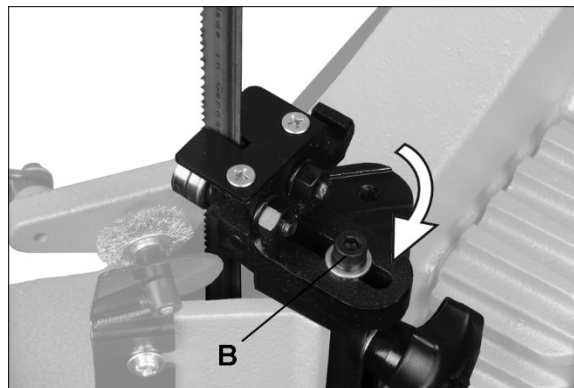

Figure 8-2: Lower Blade Guide Rotation (712DV only)
3. The blade guide brackets can be rotated to facilitate a more comfortable operating position while in vertical mode. Remove screw (B, Figure 8-2) with 6mm hex key and position bracket in adjacent channel. Re-install screw.